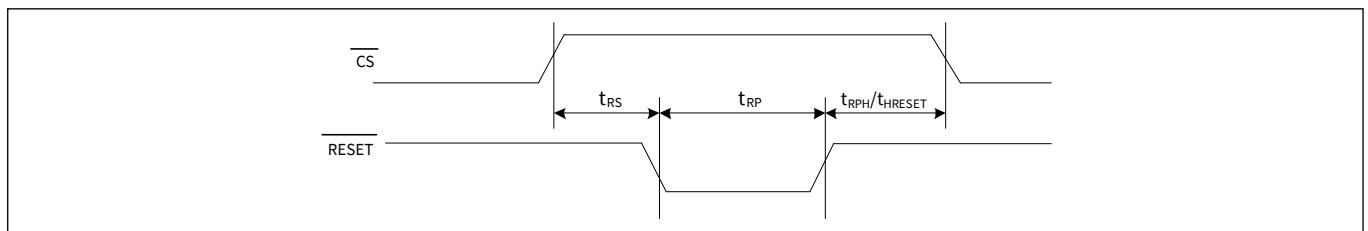
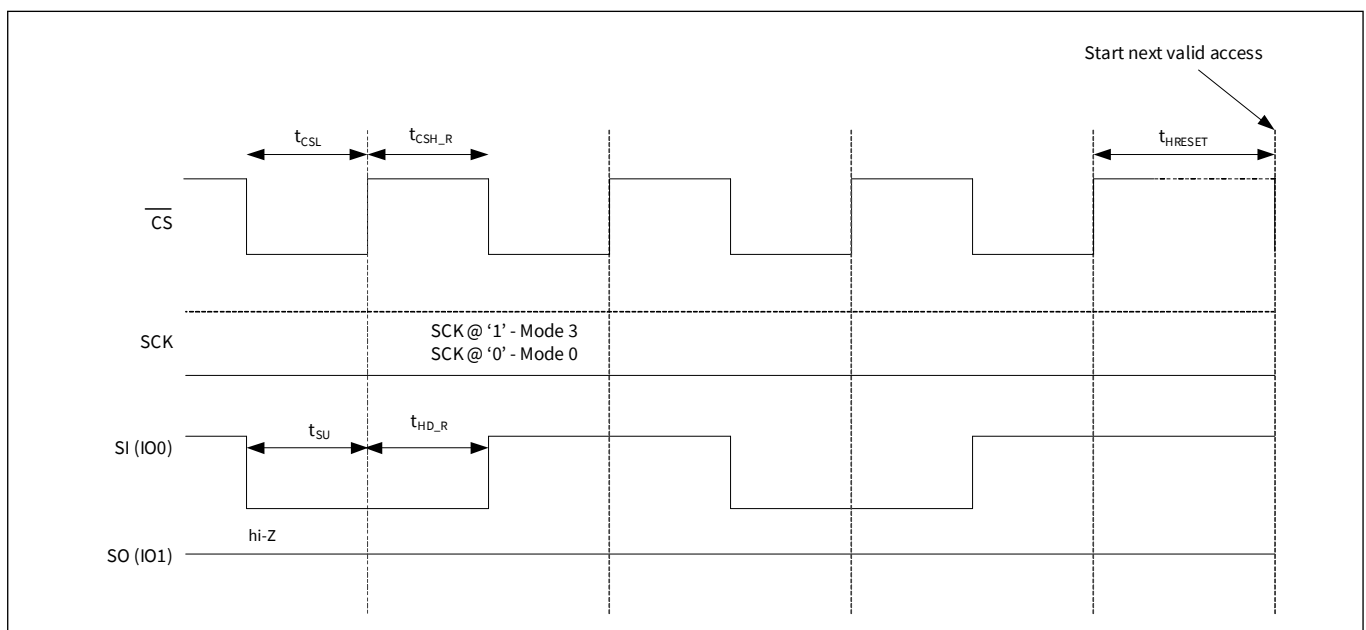

Figure 110 $\overline{\text{RESET}}$ timing - QUAD set (CR1[1] = '1') or QPI enabled (CR2[6] = '1')
Figure 112 JEDEC SPI reset
The hardware reset input ($\overline{\text{RESET}}$) is multiplexed on ($\overline{\text{RESET}}$ / I/O3) and is an active LOW signal in CY15B201QSN device. Refer to Table 21 for hardware reset ($\overline{\text{RESET}}$) pin configurations across various SPI interfaces. When $\overline{\text{RESET}}$ is pulled LOW, CY15B201QSN self initializes and brings its configuration back to the power up status. Refer to Table 59 for different registers configuration after $\overline{\text{RESET}}$ cycle. Once $\overline{\text{RESET}}$ is issued, CY15B201QSN takes $t_{\text{RPH}}/t_{\text{HRESET}}$ time from $\overline{\text{RESET}}$ rising edge to complete the reset cycle. CY15B201QSN becomes inaccessible during t_{RPH} time. Figure 110 to Figure 112 show the $\overline{\text{RESET}}$ timings in different reset mode.
- The $\overline{\text{RESET}}$ pin is multiplexed on I/O3 in the QPI mode. When using the hardware ($\overline{\text{RESET}}$) in QPI mode, the CR2 [5] bit must be set to '1' to enable to use I/O3 as $\overline{\text{RESET}}$ input when $\overline{\text{CS}}$ is HIGH. Figure 110 shows the $\overline{\text{RESET}}$ / (I/O3) timing in QPI mode
Refer to Figure 112 for timing details.